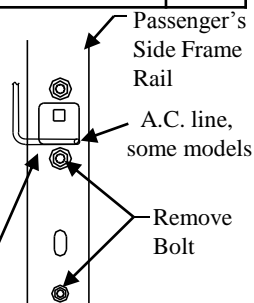

Figure 2
- Snap plastic loom in place over Air Conditioning line on Passenger's side near bolt if present. See Figure 2 above.
- Remove existing bolts from frame rails as shown in Figure 2, (3) on driver's side, (2) on passenger's side and retain for hitch installation.
- Remove plastic rivet holding plastic mud flap to Driver's side frame. May have to trim plastic after Step (4). You will not reinstall plastic rivet.